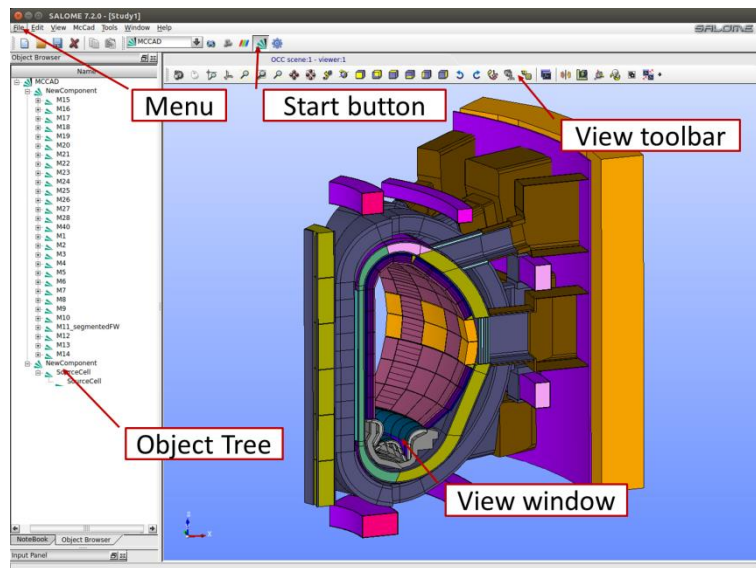

Fig 2.1 McCad GUI
Fig 2.1 shows the GUI of McCad program. It is consisted of five blocks:
- then the McCad GUI will show as Fig. 2.1